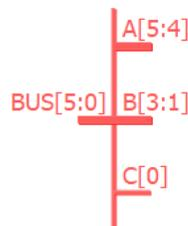

Figure 2.34. Schematic View Shows Split Module
- c. Click **OK**. The schematic block for the split module in red appears in the Schematic view (Figure 2.34).